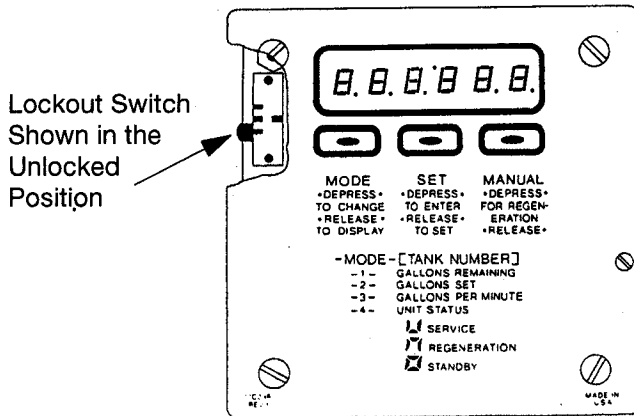

Figure 8
- Figure 8 illustrates the faceplate of the 480QC control. Be sure the system selector switches are properly set. It is necessary to remove the faceplate in order to view the system switches located at the lower left corner of the top circuit board.
Check that the Lockout Switch is in the **UNLOCKED** (down) position. When power is first connected to the control, the display will show six eights (Figure 8). If the six eights do not appear, or the display shows something other than the six eights, refer to **Resetting the 480QC**.
Move the Lockout Switch to UNLOCKED (Figure 8).